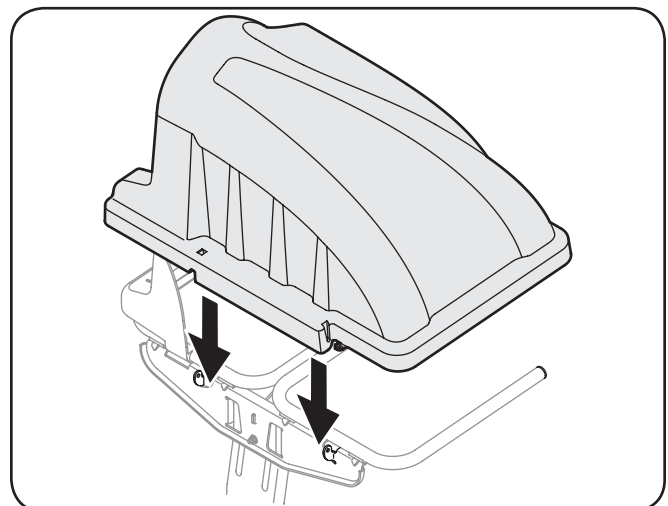

Figure 4-15
5. Install the bagger cover onto the bag support assembly, as seen in Figure 4-15. The plastic cover goes inside of the two mounting tabs.